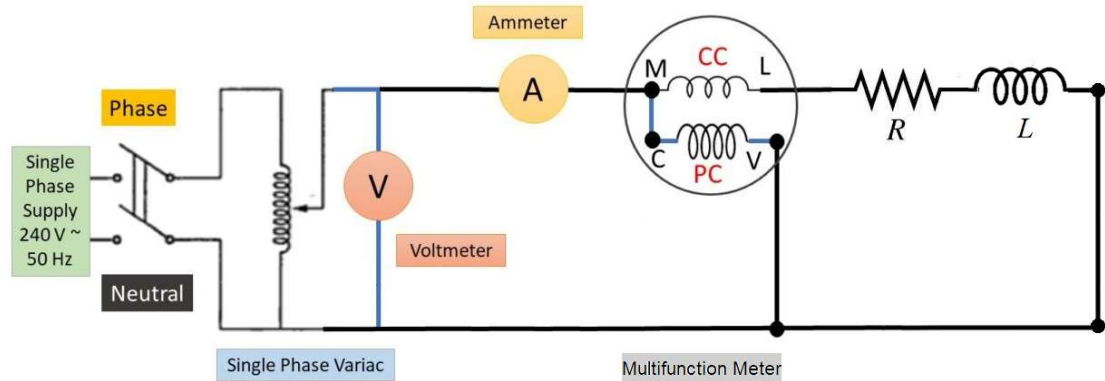

Fig.4: Circuit Diagram of Series RL circuit.
1. Connect the resistor (R) and inductor (L) in series with the single-phase AC supply as per the circuit diagram (ref fig.4)..
4. Note down the voltage (V), current (I), real power (P), and power factor ($\cos\phi$ from the meter) for each value of inductor (L).